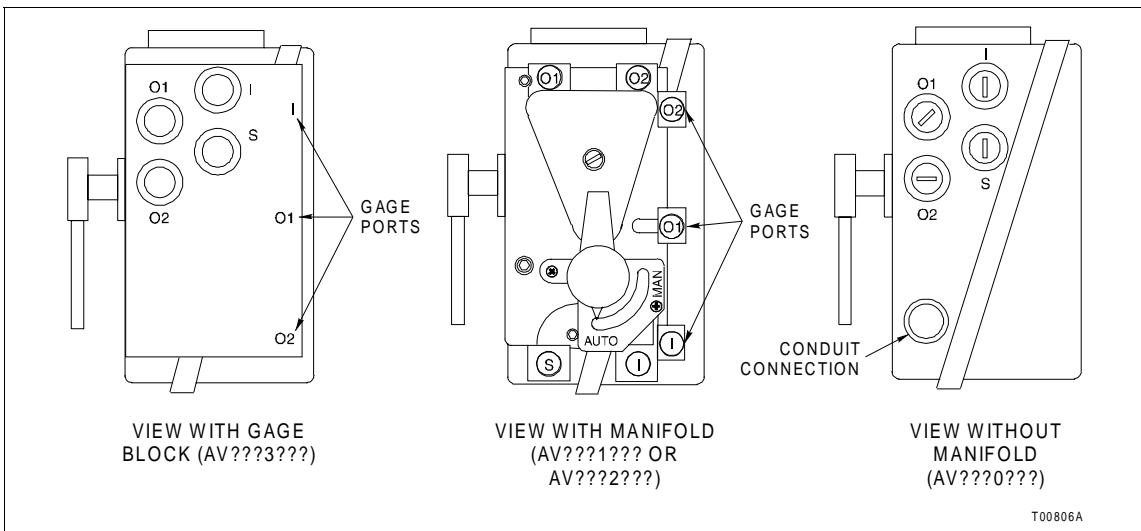

Figure 3-7. Type AV Positioner Port Locations
1. Connect the required supply air to connection S. Refer to Figure 3-7.
1. Connect the signal wiring using 1/2-inch NPT conduit. Figure 3-7 shows the location of the conduit connection. See Figure 3-10 which shows the wiring diagram. This diagram is also shown on the inside of the front cover of the positioner.